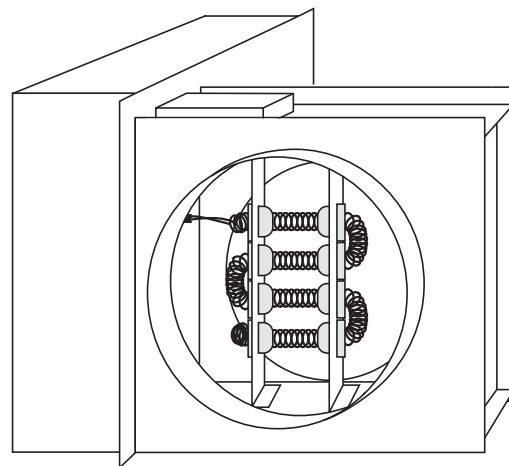

Fig. 3
- RFC Round collar open coil (Fig. 3)